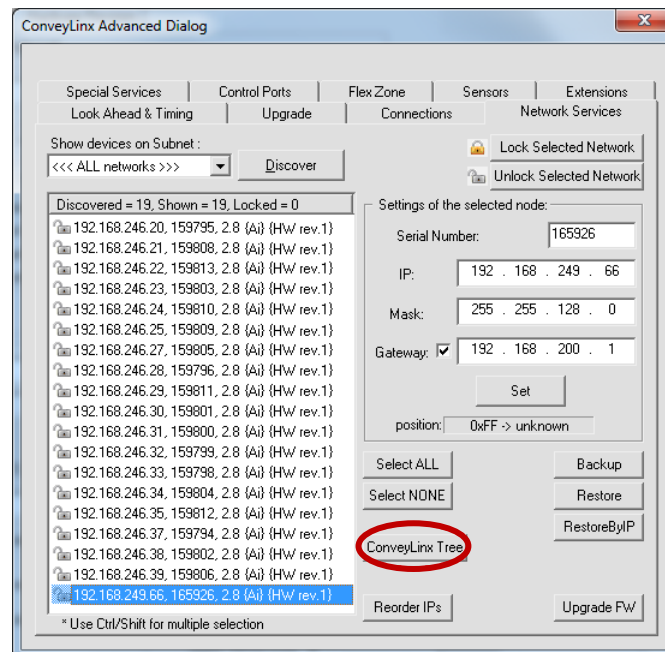
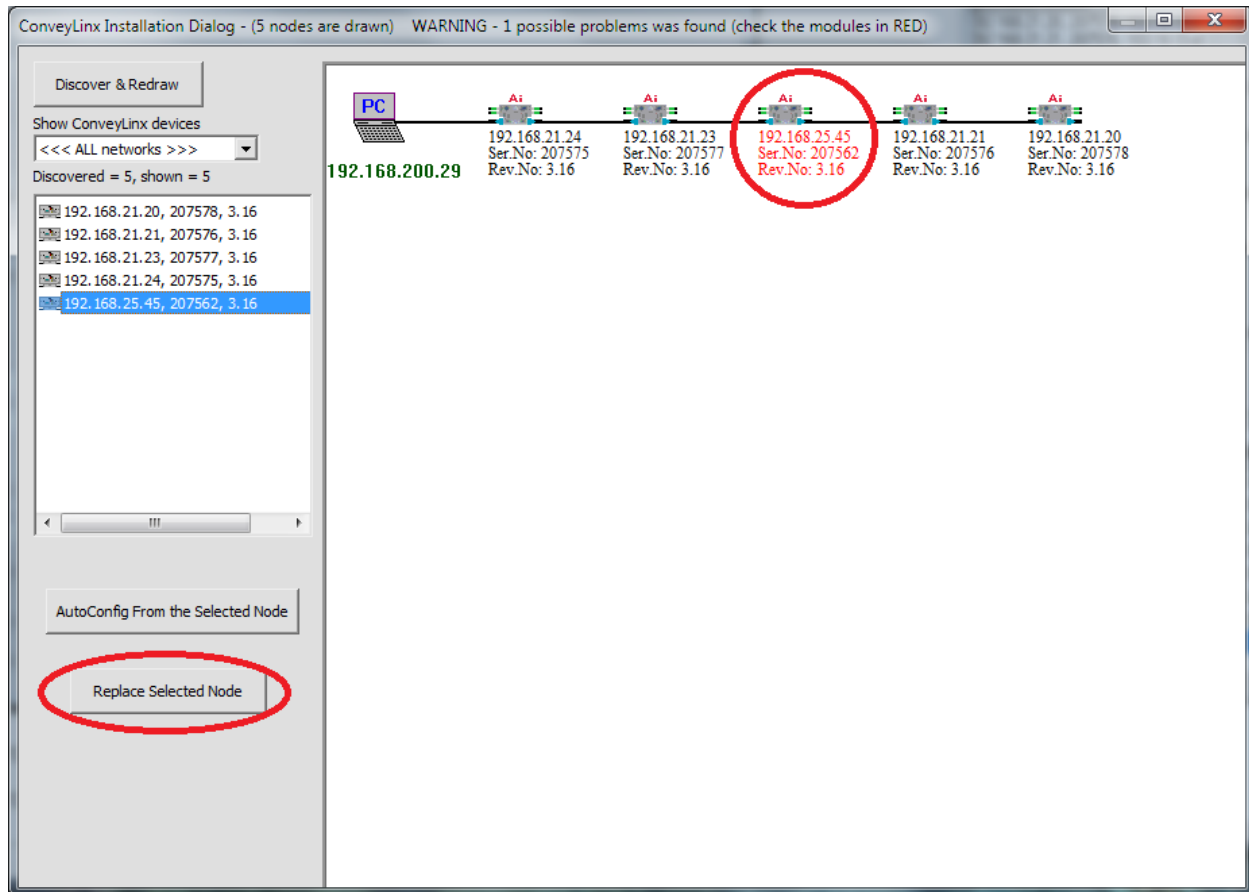

FIGURE 32 - EASYROLL NETWORK SERVICES TAB AFTER DISCOVERY
FIGURE 33 - TOPOLOGY VIEW AND REPLACING THE SELECTED NODE
3. Start *EasyRoll V4.05* or higher. Press F2 and go to tab **Network Service**, click on **Discover** button. All modules in the network should be display. Click on **ConveyLinX Tree** button as shown in Figure 32 . Topology of the ConveyLinX modules will be display in a few seconds. Select the *ConveyLinX Ai2* module from the list on the left side and click on **Replace Selected Node** as shown in Figure 33. Note that this module's text detail in the topology view will be in RED.